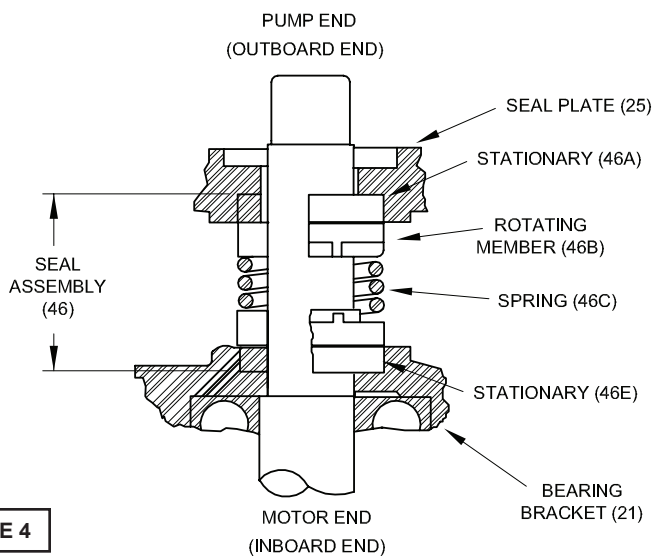

FIGURE 4
Seal - To expose shaft seal (46) for examination, complete above procedure and slide off outboard rotating member (46B), See Figure 4. Remove inboard rotating member (46), from shaft. Examine all seal parts and especially contact faces. Inspect seal for signs of wear such as uneven wear pattern on stationary members, chips and scratches on either seal face. **DO NOT** interchange seal components, replace the entire shaft seal (46).